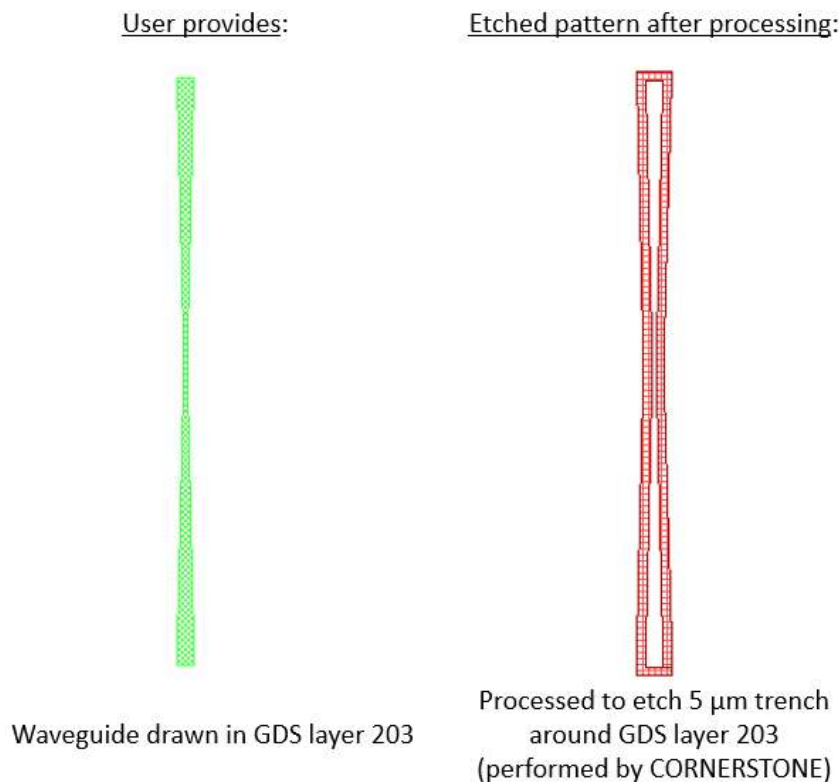

Figure 1 - Description of GDS Layer 203 processing.
- Silicon Nitride Etch 1: 200 nm full etch to BOX – GDS Layer 203 (Light field): Drawn objects on this layer will be protected from the silicon nitride etch. Users should draw the waveguides and any other features to remain following the full silicon nitride etching. During fracturing processing, this will be translated into a pattern that defines 5 µm wide trenches on either side of the waveguides drawn in GDS layer 203 (see Figure 1).